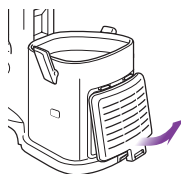

Fig. 22
- 1 Remove the filter cover from the front of the vacuum by pulling up on the tab and pulling the cover away from the vacuum. (Fig. 22)